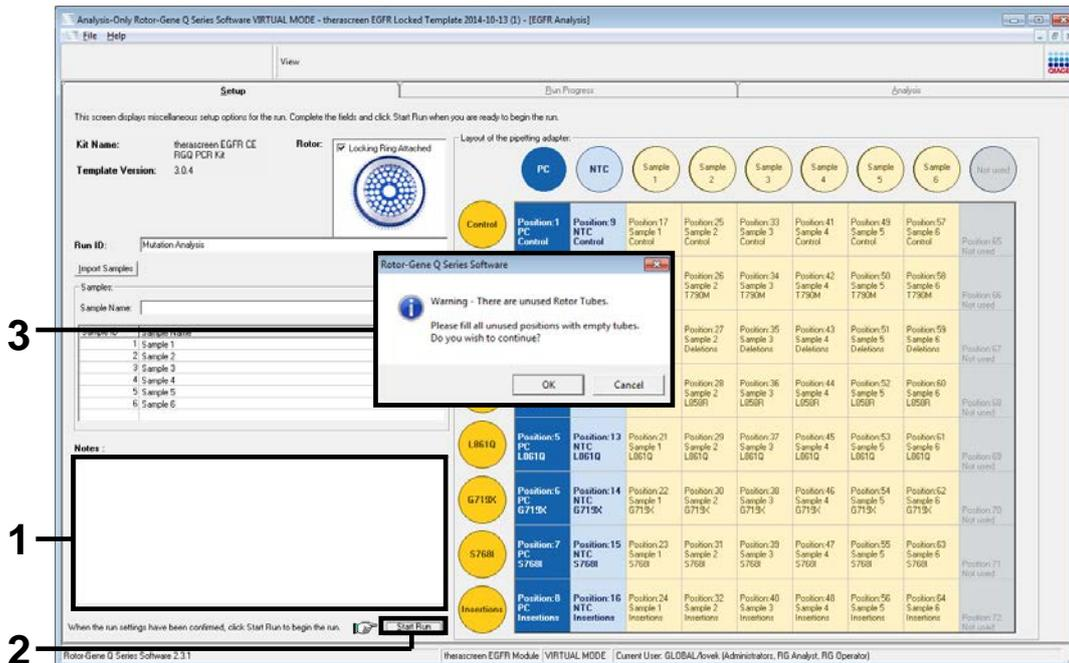

Figure 14. “Notes” dialog field (1), the “Start Run” button (2), and “Warning” of unused rotor positions (3).
16. When all sample names are entered, verify they are correct. Add any additional information in the “Notes” dialog field if necessary and then click “Start Run” (Figure 14).
Note: If any rotor position is unused, a “Warning” will appear (Figure 14) to remind the user that all unused positions on the rotor must be filled with capped, empty tubes. Check that all unused rotor positions are filled with capped, empty tubes and click “OK” to proceed.